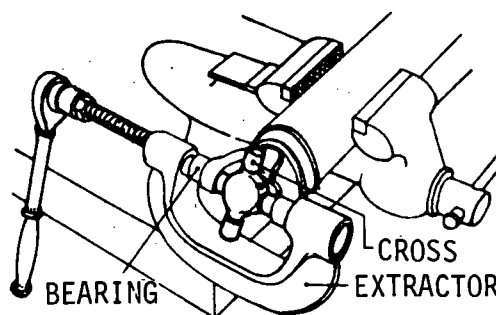

Fig. 2
- c) Extract the bearings, using a press or extractor (Fig. 2) and remove the joint.